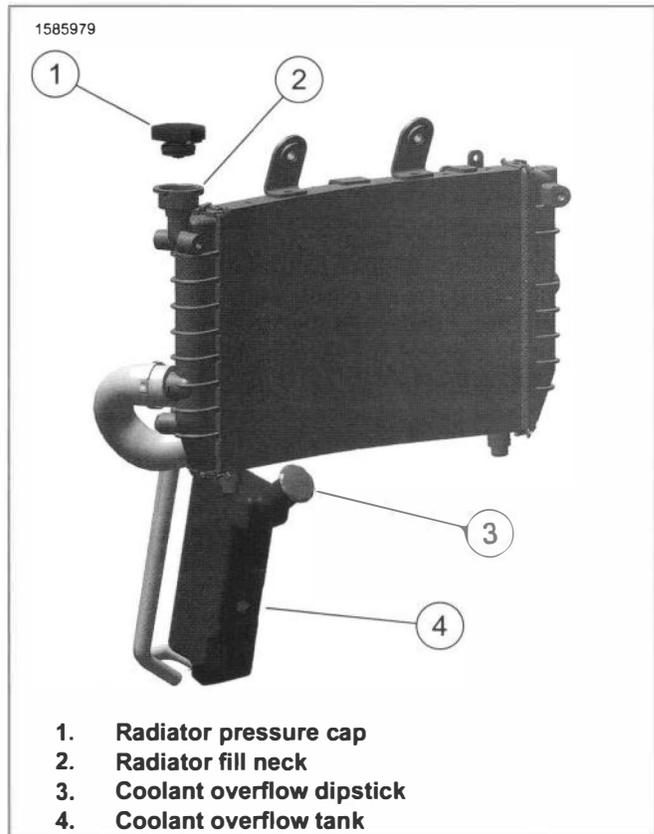

Figure 7-3. System Pressure Test
1. See Figure 7-3. Before troubleshooting cooling system, make sure that engine coolant level is at or slightly above COLD full mark on coolant overflow dip stick (3).
1. See Figure 7-3. Before troubleshooting cooling system, make sure that engine coolant level is at COLD FULL mark on coolant overflow dipstick (3).